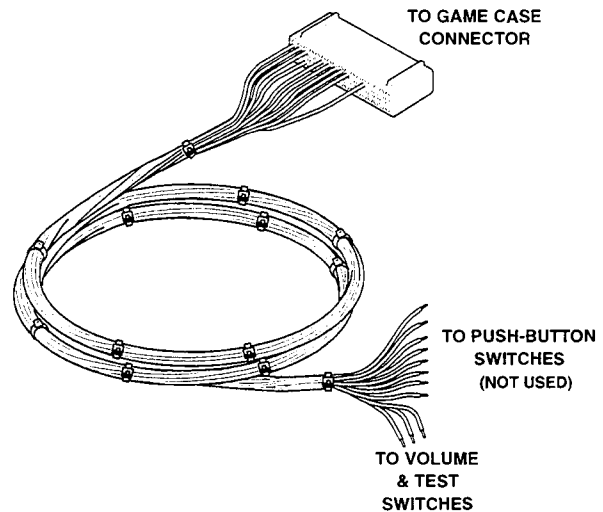

FIGURE 6
21. Reconnect the existing JAMMA connectors to the control panel according to the chart of Figure 6.
Wiring of the Test Bracket requires connections to both the main JAMMA harness as well as the auxiliary cable harness (refer to Figures 6,8, &, 10).